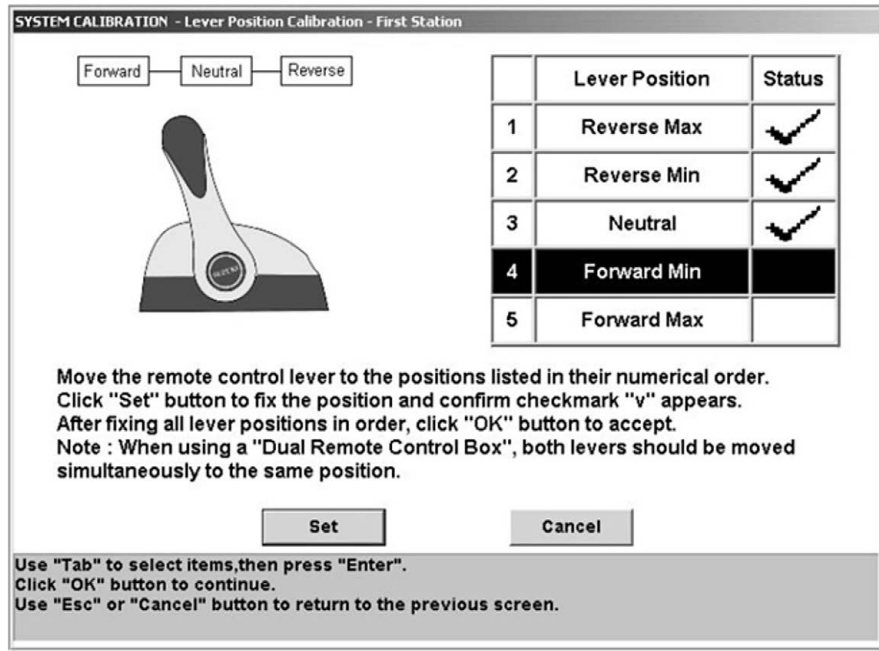

Figure 7-6. Control Head calibration.
- Once each engine's position has been registered you will be prompted to calibrate the remote control lever positions. Using the **main** remote control, follow the on-screen instructions as seen in figure 7-6.